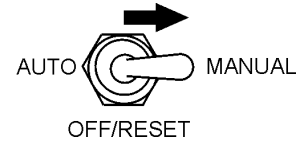

Figure 42. Auto-Off/Reset Manual Switch (Manual Position)
6. Place the **Auto-Off/Reset Manual Switch** in the **MANUAL** position to start the engine (Figure 42).